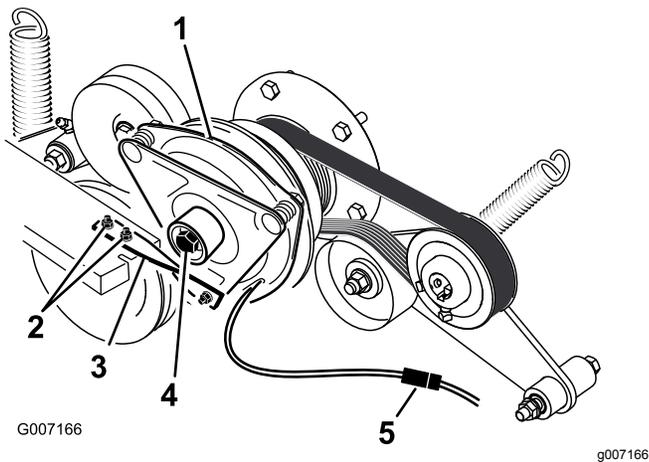

Figure 82
6. Unplug the electric connection for the clutch (Figure 82).
7. Remove the 2 bolts holding the rubber clutch strap to the mower frame (Figure 82).
8. Remove the center bolt holding the clutch to the engine shaft and remove the clutch and key (Figure 82).
16. Install the rubber clutch strap to the mower frame with the 2 previously removed bolts and nuts (Figure 82).
18. Plug in the electric connection for the clutch (Figure 82).
15. While holding the crank shaft at the back of the machine, install the center bolt and torque it to 68 N·m (50 ft-lb) (Figure 82).